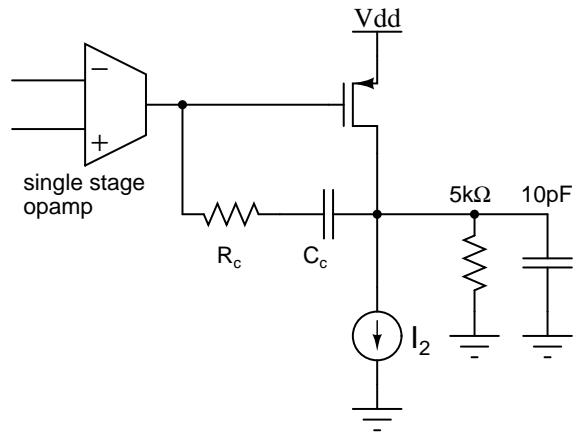

Figure 2: Two stage opamp
3. Design a two stage single ended opamp (Fig. 2) that has a dc gain of at least 1000, and a unity gain frequency of 100 MHz with a load of 10 pF and $5\text{ k}\Omega$ in parallel. Design the second stage common source amplifier to have a sufficiently high dc gain while driving the desired load resistance and a sufficiently high second pole while driving the desired load capacitance. Use a scaled version² of your single stage opamp design from the previous assignment for the input stage. Use a suitable compensation capacitor (Fig. 2). All parasitic poles and zeros should be at at least twice the unity gain frequency. Ensure that